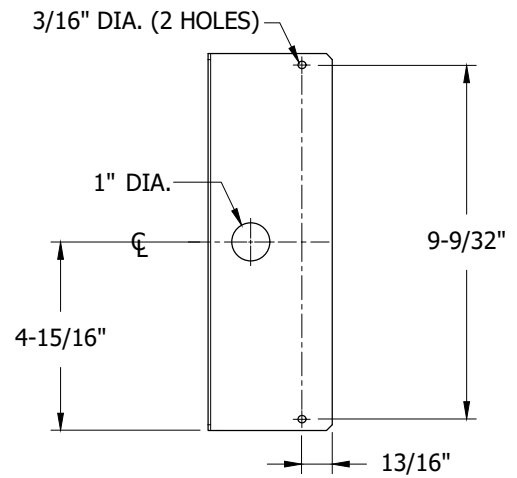

FIGURE 50
- B. FASTEN SHIELD TO DOOR BY SECURING THE INCLUDED THREAD CUTTING SCREWS INTO THE TWO 3/16" HOLES ON THE SHIELD (SHOWN ON FIGURES 50 AND 52).